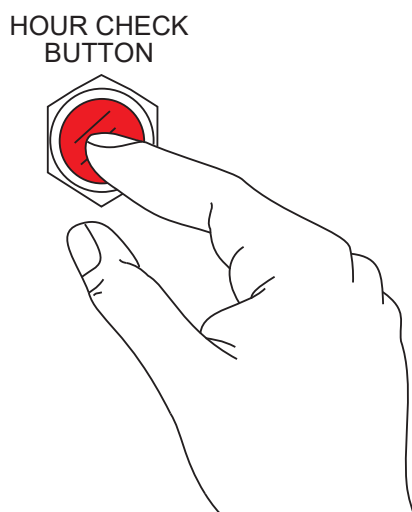

Figure 100. Hour Check Button
1. With the engine stopped (**OFF**), press and hold the **Hour Check button** (Figure 100) located on the control panel.